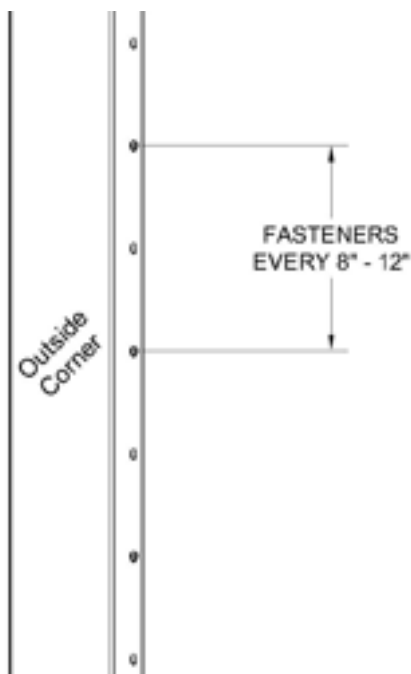

Fig. 1
3. Fasten the outside corner to the wall using galvanized or corrosion resistant nails or screws approximately every 8" to 12" along the nail hem making sure the profiles are securely fastened using galvanized, stainless, or corrosion resistant nails or screws (Fig. 1).